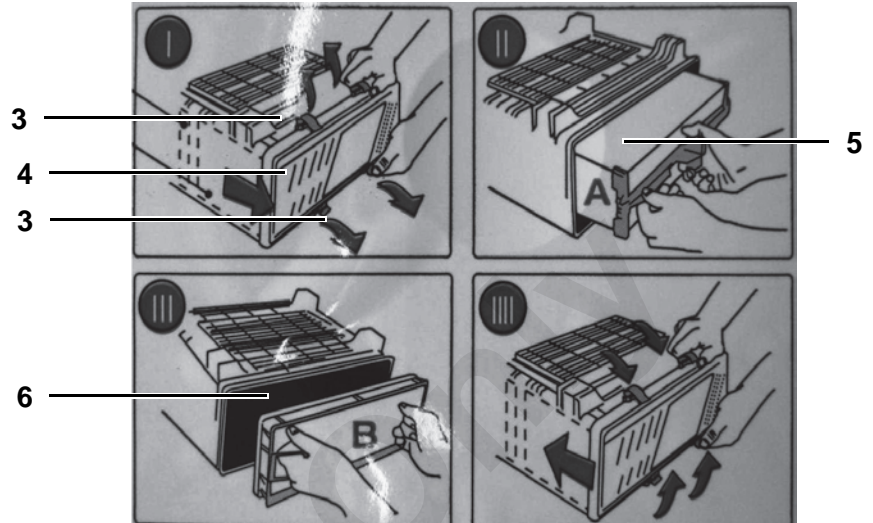

Fig. 10 Replacing the air filter
3	Open the four locking clamps (3) in Fig. 10 of the air filter cover and remove the air filter cover.
4	Pull out the main element, Primary (5) in Fig. 10, and the safety element, Secondary (6) in Fig. 10, and dispose of them properly.
5	Insert the new main element, Primary (5) in Fig. 10, and safety element, Secondary (6) in Fig. 10.
6	Fasten the air filter cover (4) in Fig. 10 using the locking clamps (3) in Fig. 10.